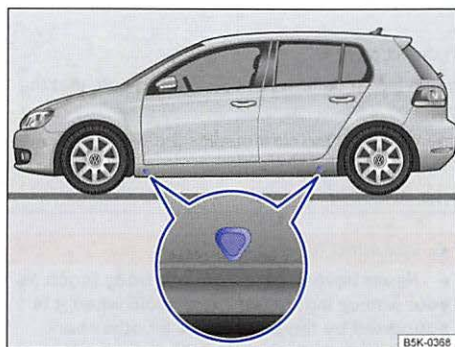

Fig. 162 Lift point for the jack.
The jack must be positioned at one of the 4 lift points marked on the vehicle body (2 on each side as shown in $\Rightarrow$ fig. 162). You must use the lift point closest to the wheel being changed $\Rightarrow$ .
2. Switch off the engine. Automatic transmission: shift the transmission into Park (P) $\Rightarrow$ page 171; Manual transmission only: shift into a gear. Then firmly apply the parking brake $\Rightarrow$ page 179 to help prevent the vehicle from moving.
6. Find the jack lift point $\Rightarrow$ fig. 162 on the vehicle frame that is closest to the wheel to be changed.